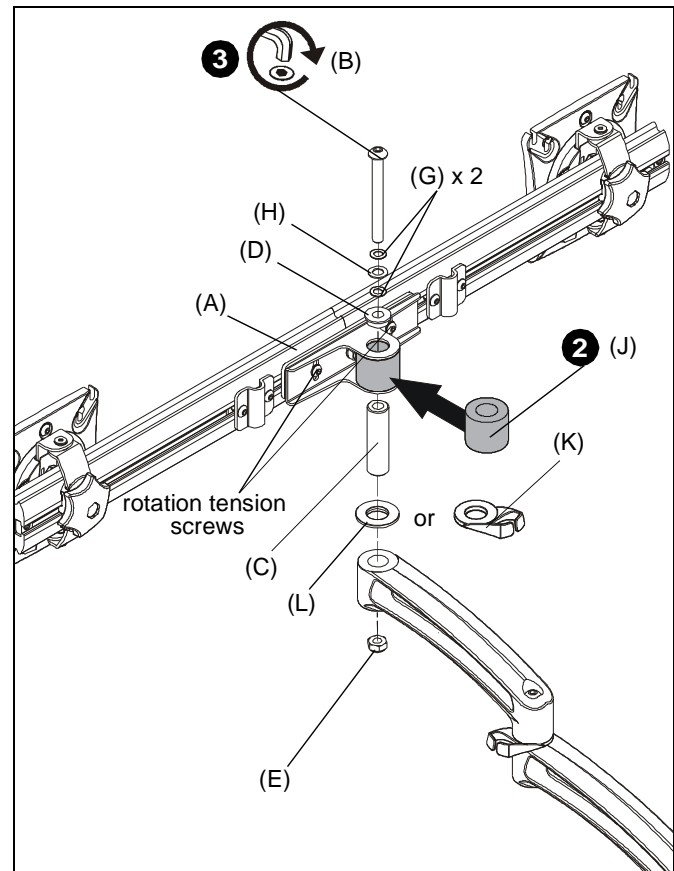

Figure 2
2. Slide rotational spacer (J) into opening on array attachment bracket. (See Figure 2)
3. Use 5/16-18 x 3" button head cap screw (B), two thin steel washers (G), plastic spacer (H), pocket washer (D), pivot pin (C), pivot point spacer (L) and 5/16-18 lock nut (E) to secure array (A) to mounting arm. (See Figure 2)
NOTE: Cable clip (K) can be used in place of pivot point spacer (L) if additional cable management is desired. (See Figure 2)
NOTE: 1/8" hex key (R) provided to adjust tension of array bar rotation screws if desired. (See Figure 2)